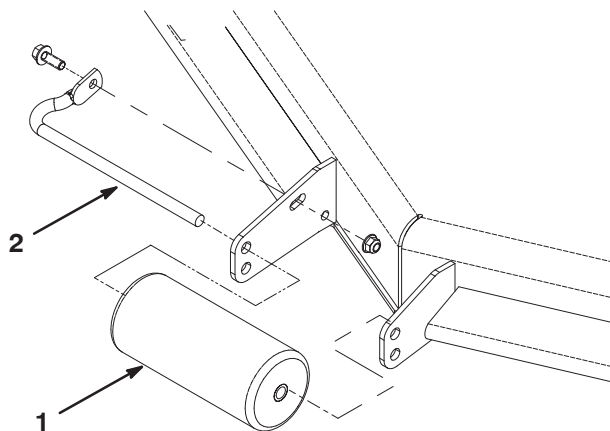

Figure 16
### To adjust the front rollers (Fig. 16)
1. Remove the screw and nut securing the roller shaft to the deck bracket (Fig. 16).